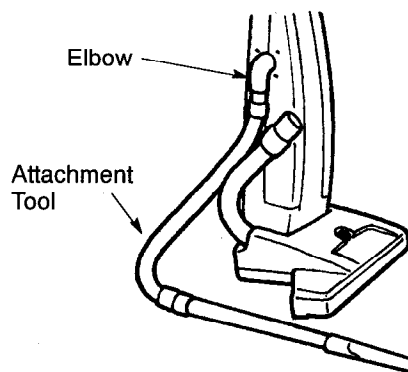

FIG. 5
3. Connect attachment tool vacuum hose to elbow and desired tool to opposite end (*Figure 5*).